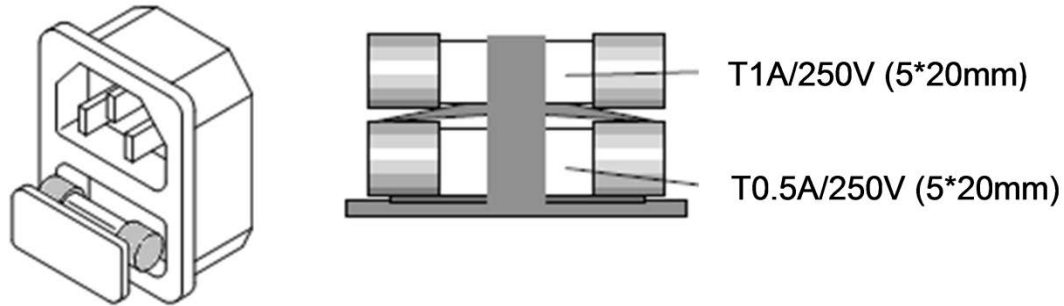

Figure 5-2: AC Line Fuse Holder Location
2. The AC line fuse is located below the AC line socket (see Figure 5-2). Use a small screwdriver to remove the fuse holder. Replace the failed fuse with the appropriate type and rating according to your mains voltage.